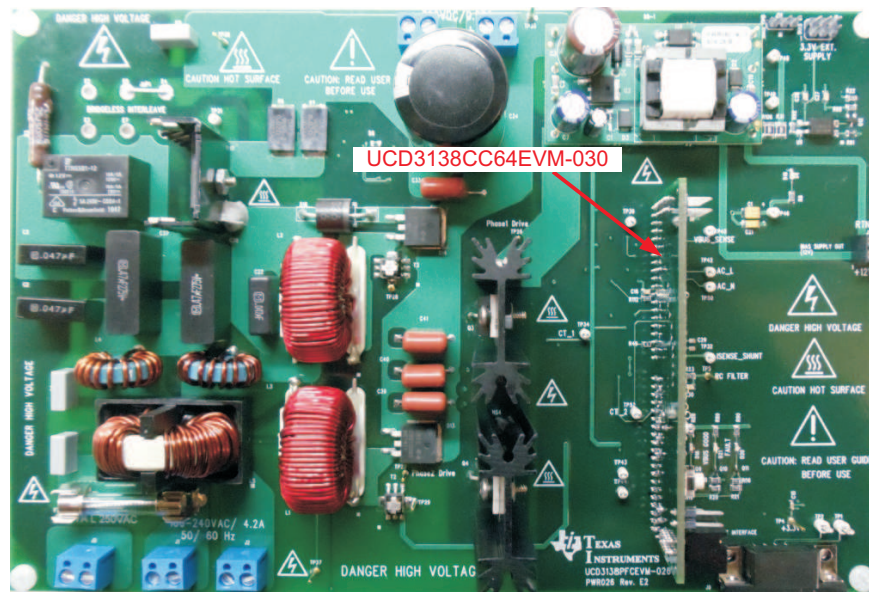

Figure 4. EVM Orientation of UCD3138PFCEVM-030 on the UCD3138PFCEVM-026
4. First install the board of UCD3138CC64EVM-030 onto the board of UCD3138PFCEVM-026. Care must be given to the alignment and the orientation of two boards, or damage may occur. Refer to Figure 4 for UCD3138CC64EVM-030 board orientation.